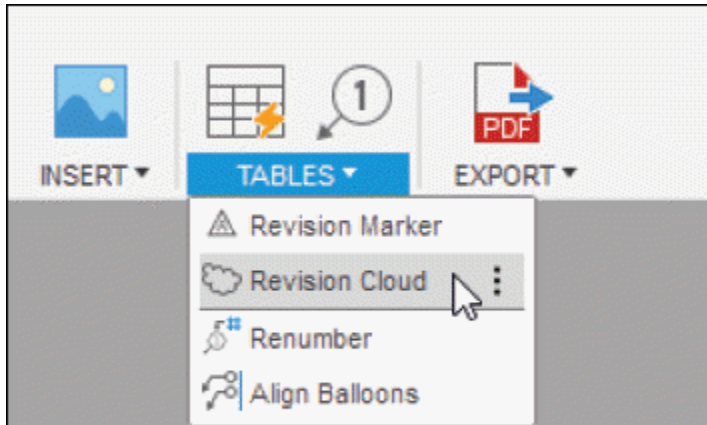

Figure-122. Revision Cloud tool
- Click on the **Revision Cloud** tool from the **TABLES** panel in the **Toolbar**; refer to Figure-122. You will be asked to specify the first point.